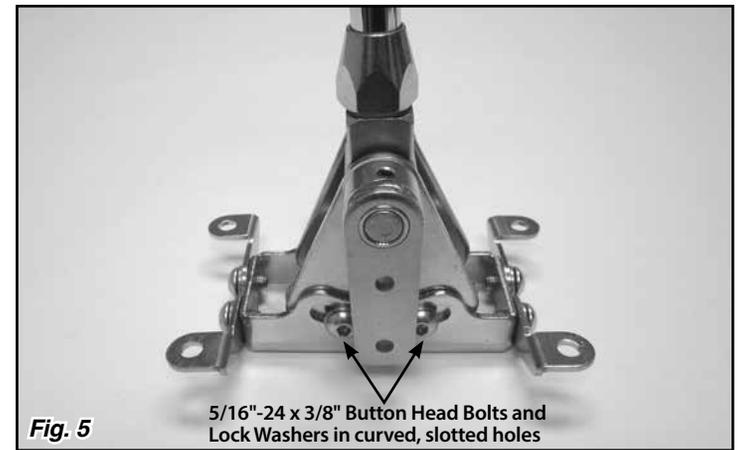

Fig. 5
Step 4: Make sure the two 5/16"-24 x 3/8" button head bolts and lock washers that are in the curved, slotted holes in the driver side of the floor mount mounting bracket are tight. Place the Shifter in the desired location on the vehicle's floor. Make sure the shifter lever will not interfere with the dash when in Park, or with the seat when in low gear. The shifter assembly may be tilted forward or backward if needed by loosening the two 5/16"-24 x 3/8" button head bolts and lock washers that are in the curved, slotted holes in the left side of the floor mount mounting bracket. Retighten the button head bolts in the curved, slotted holes once you have the shifter assembly at the angle you want. **Fig. 5**